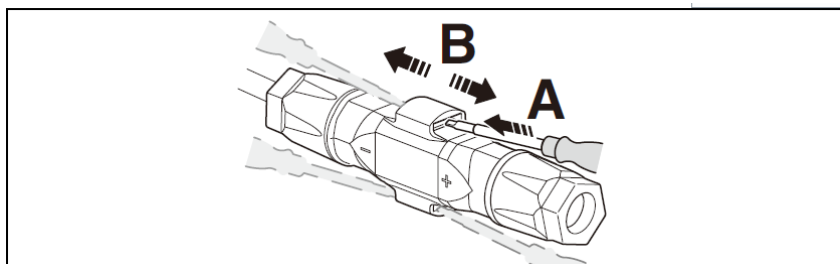

Figure 5-14
1). Insert the screwdriver into one of the four openings(Figure 5-14, A).
2). Leave the screwdriver in the opening. Pull the two connectors apart(Figure 5-14, B).